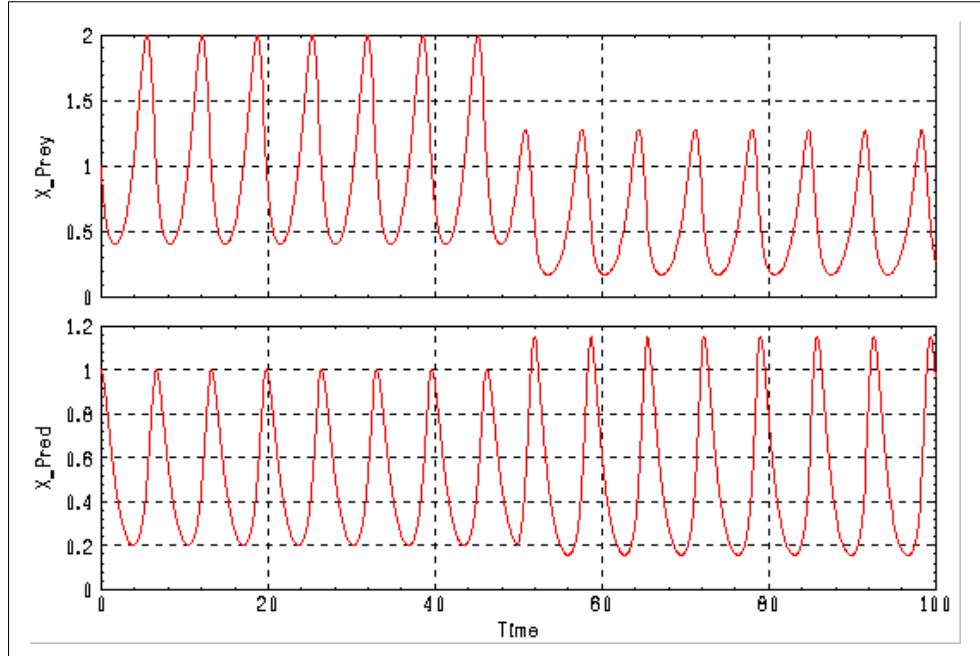

FIGURE 8-7 Plot with Run-time Variable Editing Illustrated
8. Back in the ISIM Main window, click **Resume**, and observe that the **Time** indicator advances to 100, then stops. Select File→Exit to return to the SystemBuild editor. The plot produced should look like Figure 8-7 on page 8-19.
An examination of Figure 8-7 shows how changing a parameter of a model can make significant changes in the simulation. In the left half of the plot, before time point 50 is reached, predator (below) and prey (above) populations are interacting in a certain balance. Then, at 50, where the Efficiency_factor, k, was increased, this corresponds to an increase in the efficiency of the predator, and the amplitude of the population of predators increases: at certain times in the cycle, there are more predators than ever before. This increase is at the expense of a considerable diminution in the prey population, which at best is scarcely more than half its previous